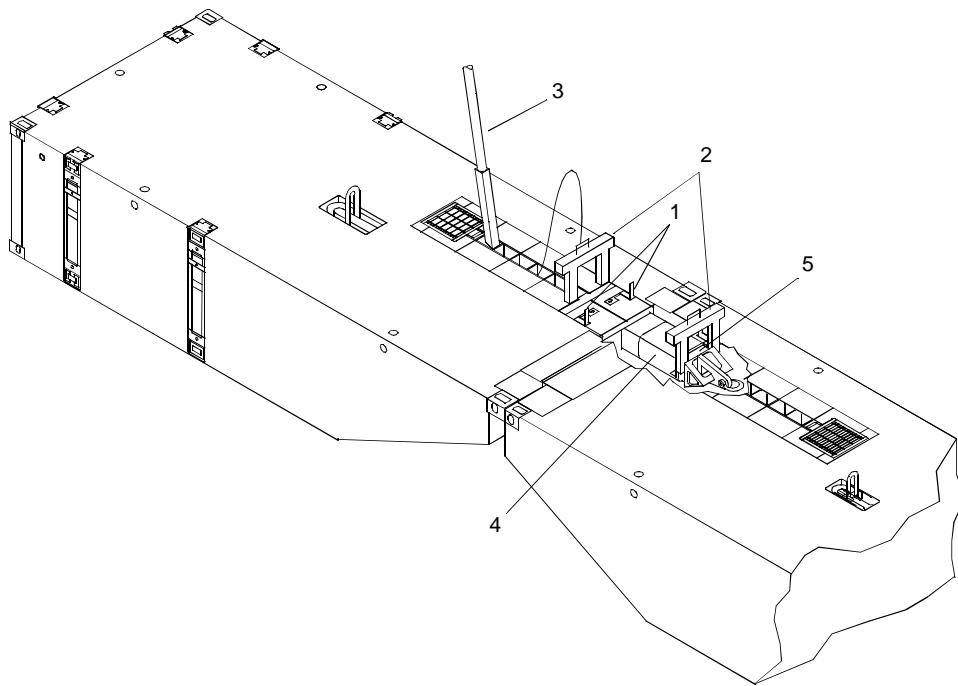

Figure 21. Connecting Segments (1)
2. Rotate and pull chute bolts (figure 21, item 1) to UNLOCKED position.
3. Lift guillotine plates (figure 21, item 2) from flexor connector slots.
4. Using a crowbar (figure 21, item 3) push each flexor connector (figure 21, item 4) from the left rake end into corresponding pocket of right end rake until guillotine plates (figure 21, item 2) are aligned with flexor connector slots (figure 21, item 5).
5. Using a sledgehammer, drive guillotine plates (figure 21, item 2) down into flexor connector slots (figure 21, item 5).